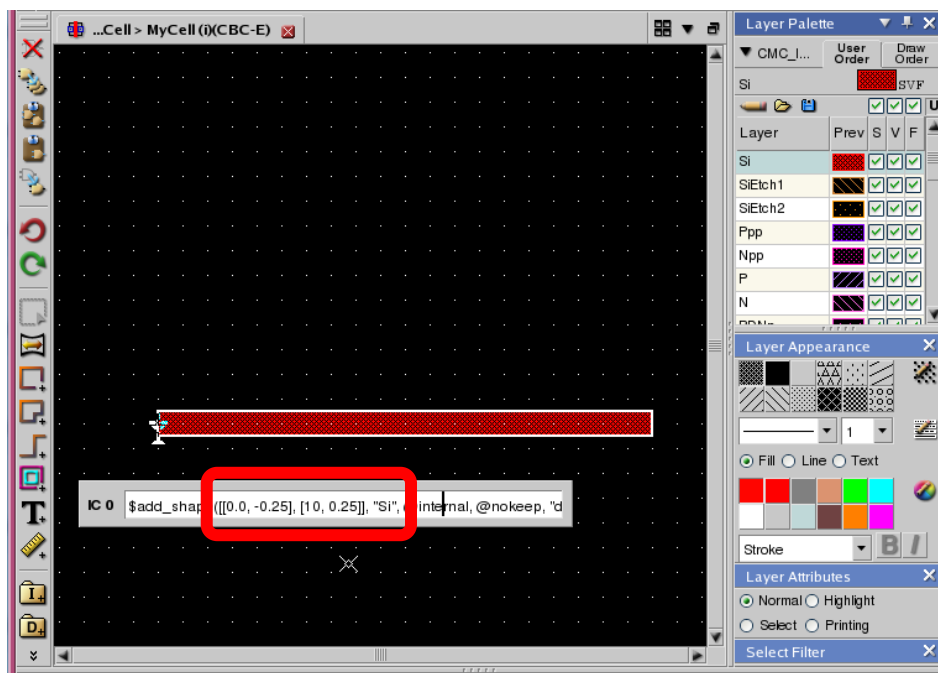

Figure 26: Changing Rectangle Attributes Using Command Prompt
- iii. Paste the code into the command line then modify the attributes to the previously stated values (see Figure 26). Note that this creates a new rectangle in the layout.